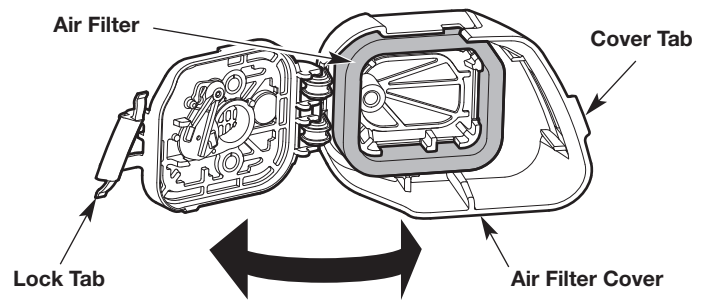

Fig. 21
1. Open the air filter cover: Hook your fingers behind the cover tab. To unlock the air filter cover, pull it to the left and away from the engine. This may require a firm pull. Swing the air filter cover to the right (Fig. 21).
2. Remove the air filter from inside the air filter cover (Fig. 21).
6. Reinstall the air filter inside the air filter cover (Fig. 21).
7. Close the air filter cover: swing the air filter cover to the left and press it closed until the lock tab snaps into place (Fig. 21).